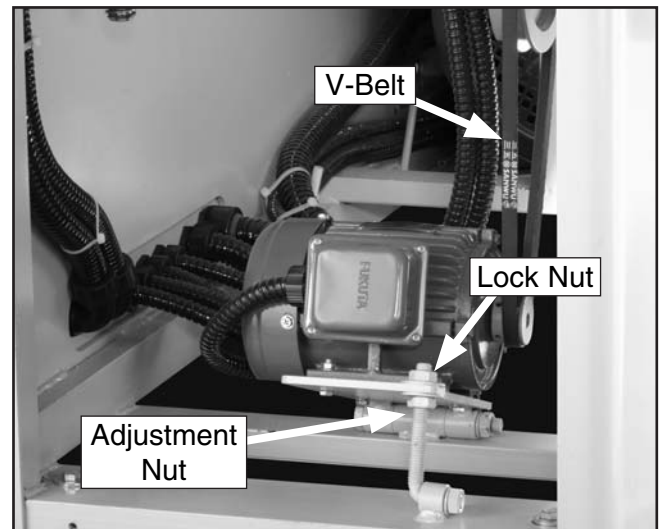

Figure 33. Table elevation V-belt.
- Loosen the lock nut (**Figures 33 & 34**).